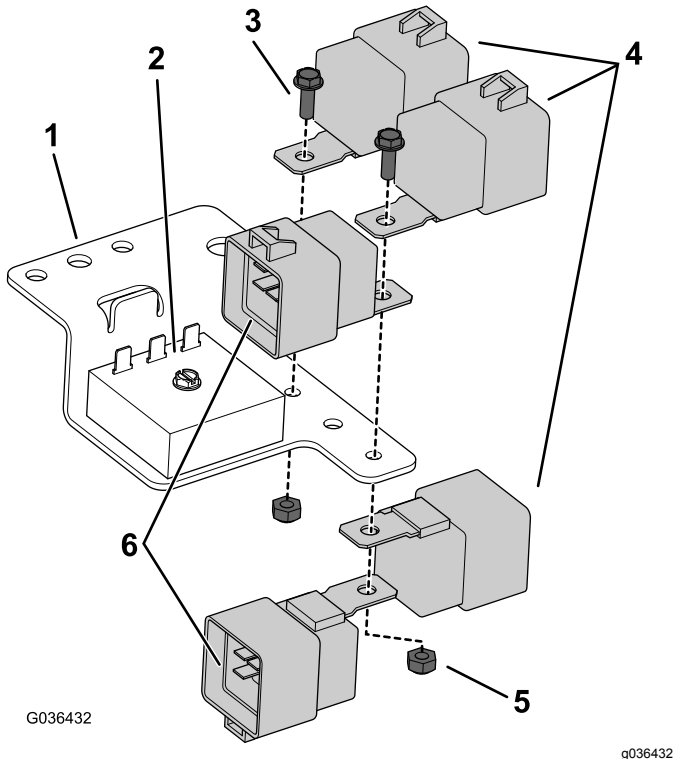

Figure 26
1. Install the 5 relays onto the relay bracket with 2 bolts (10-24 x 0.56 inch) and 2 locknuts (Figure 26).
- D. Plug the 3 deck wire harness connectors and 2 lift-delay wire harness connectors into the 5 relays previously mounted on the relay bracket. Refer to Figure 26 for the correct orientation.